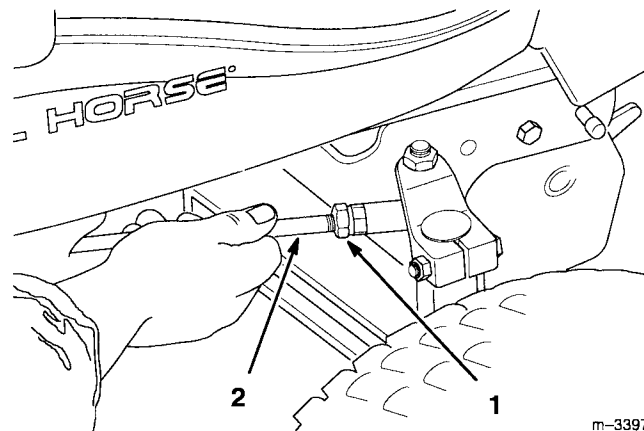

Figure 40
1. Loosen the jam nuts at the ends of the steering rods (Fig. 40).